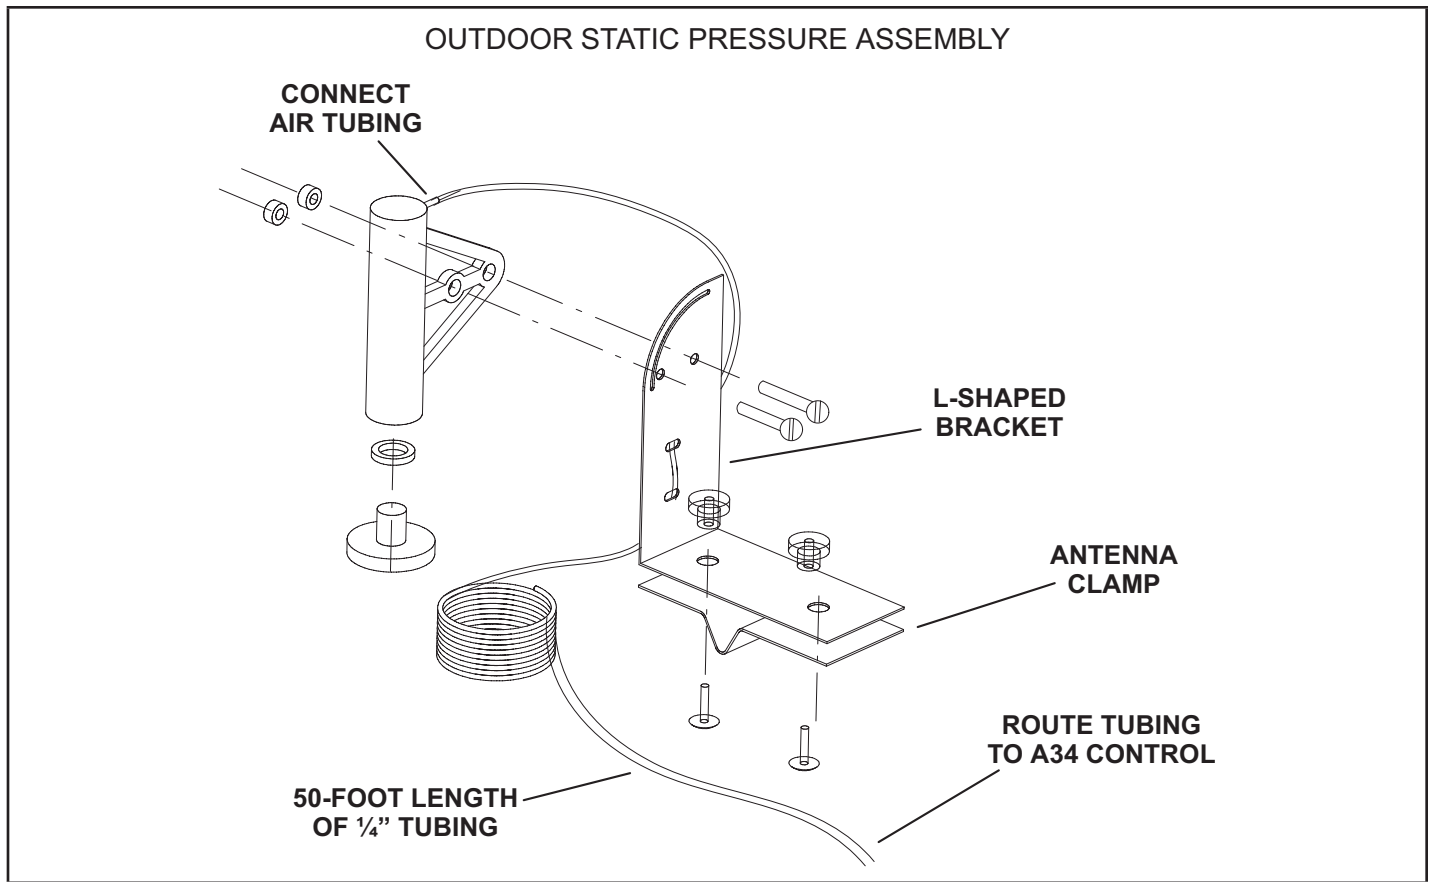

FIGURE 5
- 9 - Connect the other end of the outdoor air tubing to the outdoor static pressure assembly. See FIGURE 5.